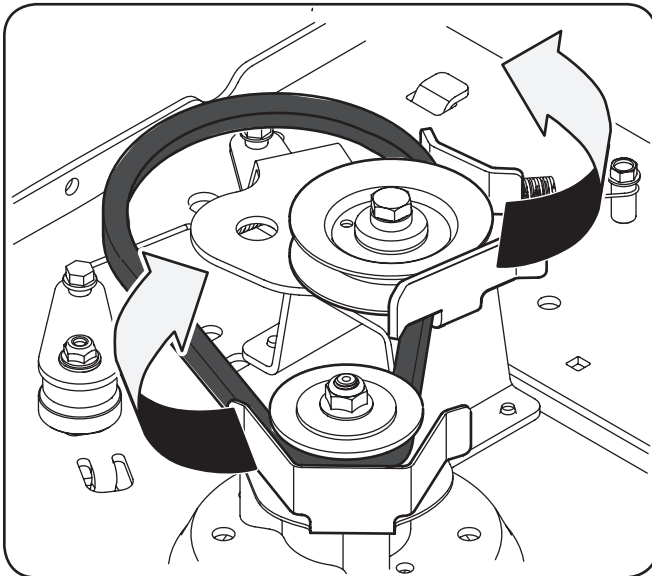

Figure 5-5
6. Remove the belt from the drive pulley assembly, as shown in Figure 5-5, by working the belt off of the two drive pulleys.